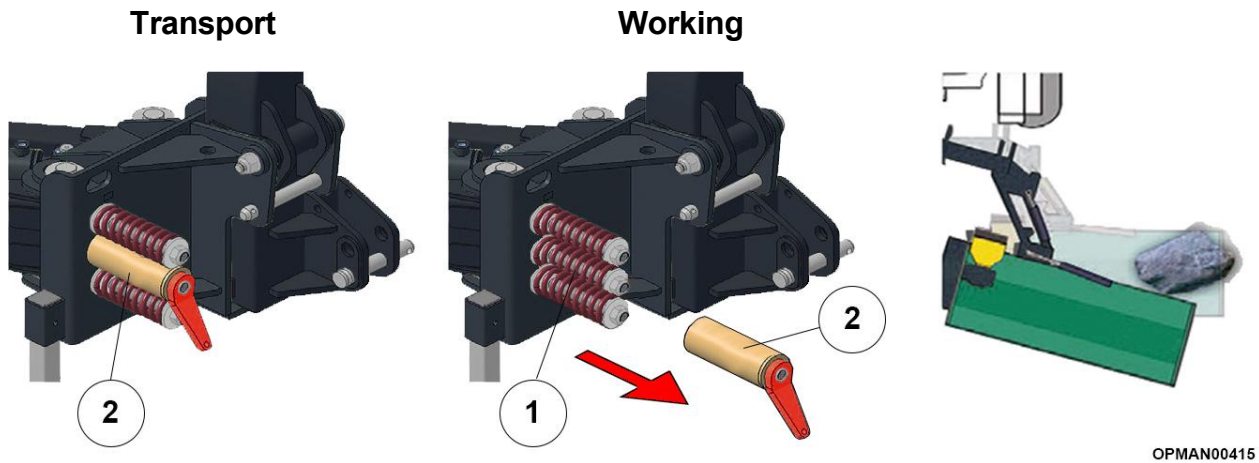

Figure 9
Sniper HD Offset machines feature three springs fitted to the headstock (Figure 9(1)) to allow the machine to automatically breakback if the machine comes into contact with an item or if it needs to follow uneven terrain when in work.
These springs should be fitted to the machine at all times as shown in Figure 9.
The machines also feature a transport spring safety lock sleeve (Figure 9 (2)) which should be fitted during transport to ensure the machine stays as stationary as possible when folded. This safety lock should be slid over the centre spring and then secured in position through use of the handle.